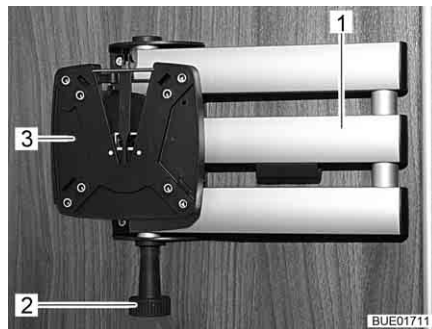

Fig. 71 Holder with jointed arm
- Pull the release knob (Fig. 71,2). The jointed arm (Fig. 71,1) is unlocked.
- Turn the flat screen back into the original position until you hear the holder (Fig. 71,3) engage in the lock.